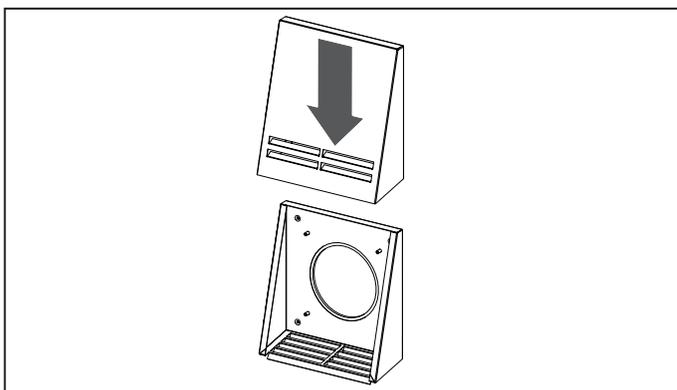
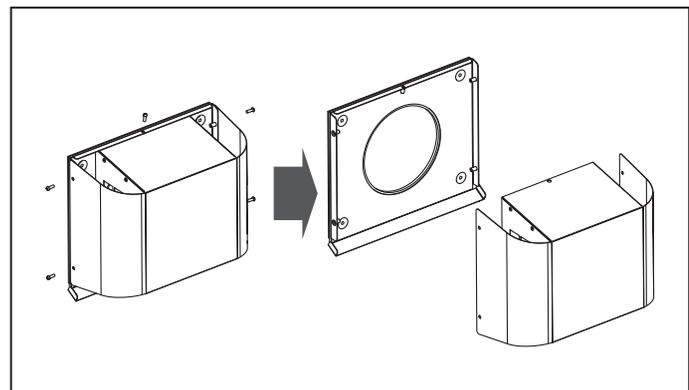

Fig. 19.
Fig. 20
- remove the upper part of the outer ventilation hood: Fig. 19 – for VENTO Solar V60 Pro / Pro2; Fig. 20 – for VENTO Solar V60 S Pro / S Pro2.